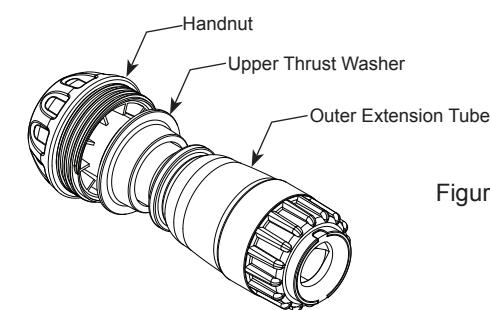

Figure 3
- Remove the handnut, engine, and upper thrust washer from the body (see Figure 3).